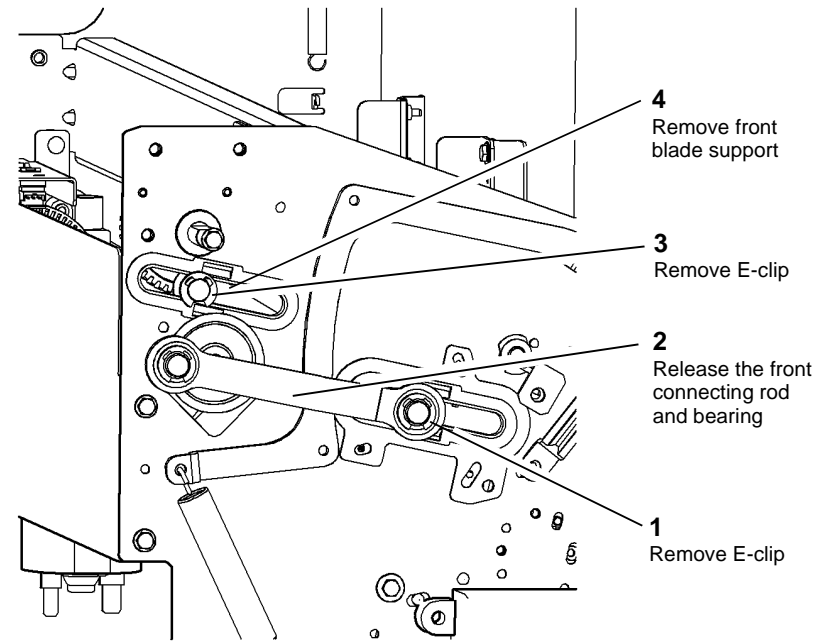

Figure 2 Front support removal
6. Figure 2, remove the front blade support.